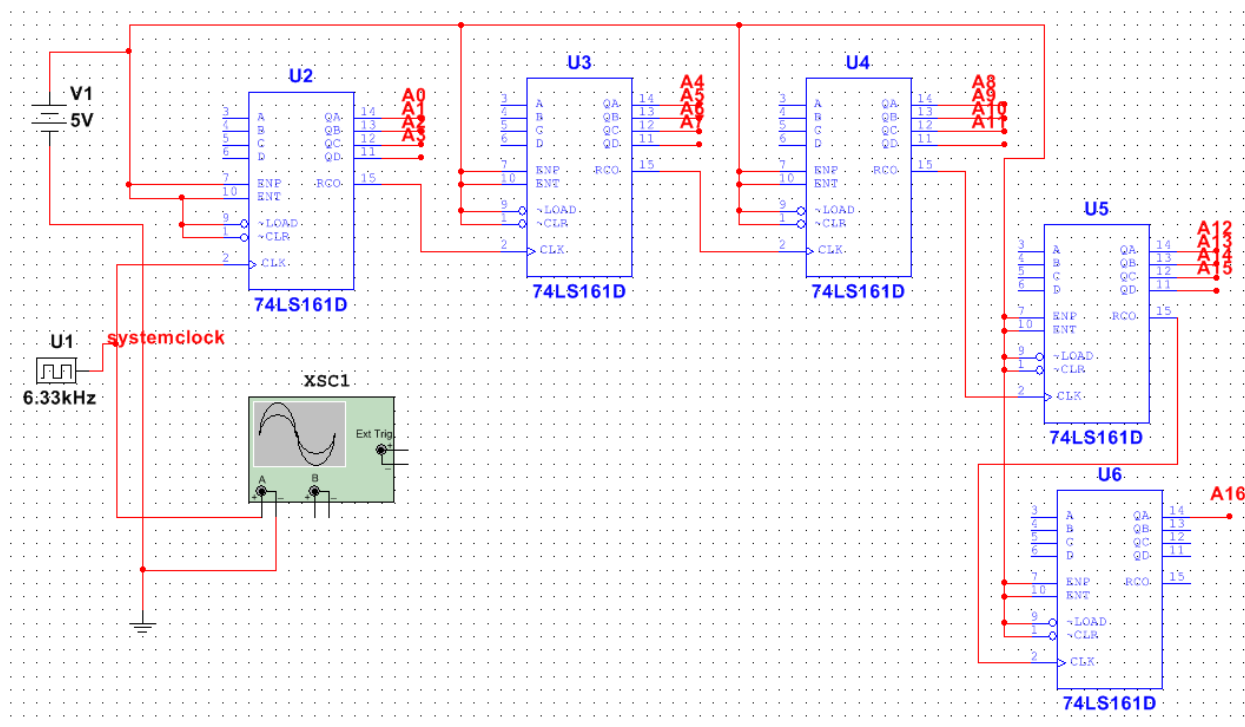

Figure 1: Schematic used in Multisim to achieve 17-bit counter
In order to design the 17-bit cascading counter, three 74LS590 8 bit counters needed to be connected. This was achieved by routing the Ripple Carry Out pin (9) to the clock pin (11) of the next counter do to the design contracts a not gate from the first to the second and the second to the third counter needed to be connected to achieve correct count. In the simulation, this was not needed the 8-bit counter used in the hardware implementation was not available in Multisim. Figure 1 shows the 17-bit counter by using 74LS161 4-bit counters. Using the 6.33 kHz clock used in the lab up until now.